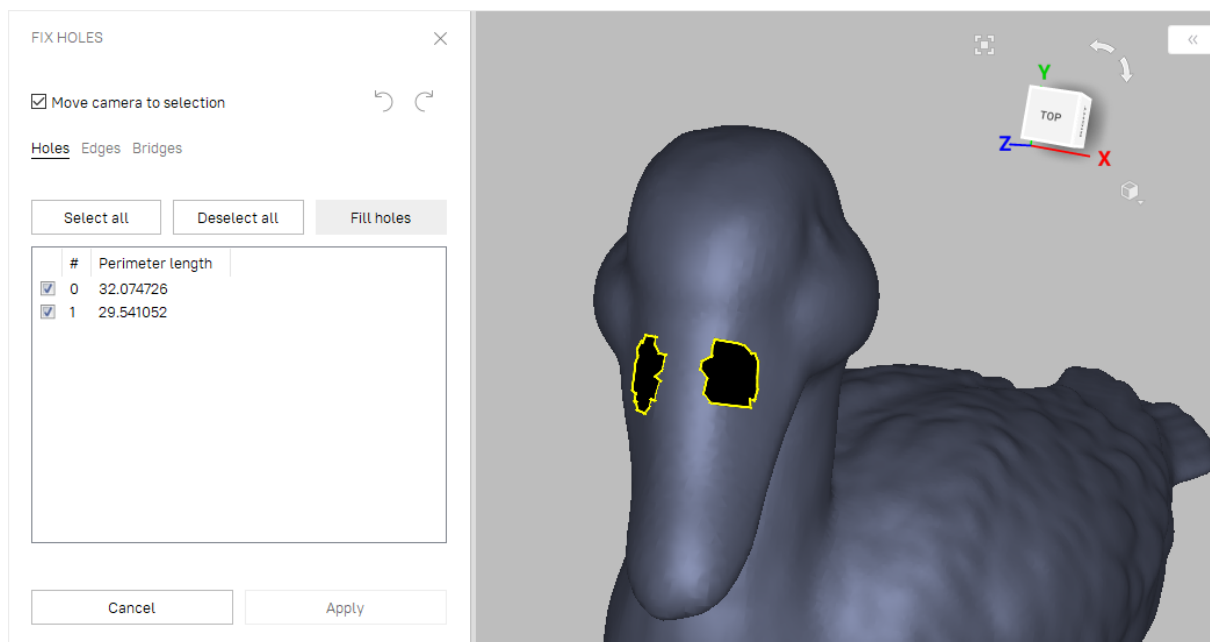

Figure 105: Two holes marked for correction.
3. Select a hole either in *3D View window* or mark the checkbox next to it in the list. Artec Studio will highlight these holes in red (see Figure 105).